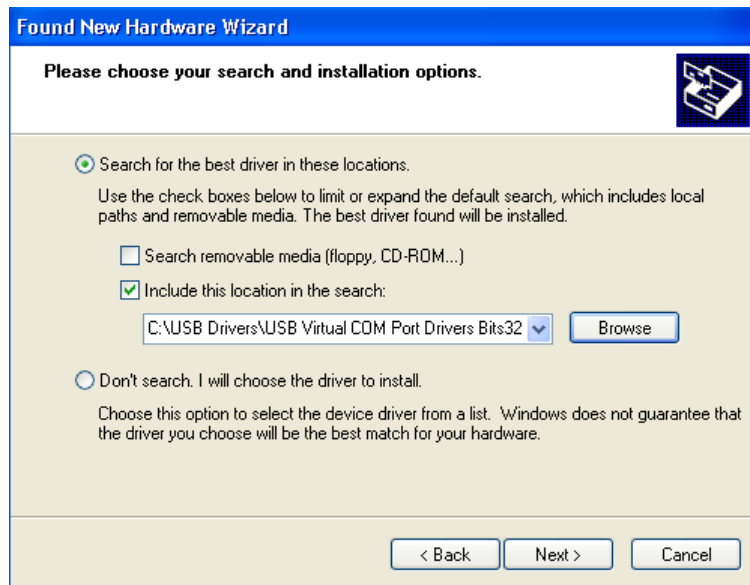

Fig. 2-19
- ◆ Select "Install from a list or specific location (Advanced)" as shown in Fig.2-19 below and then click "Next".